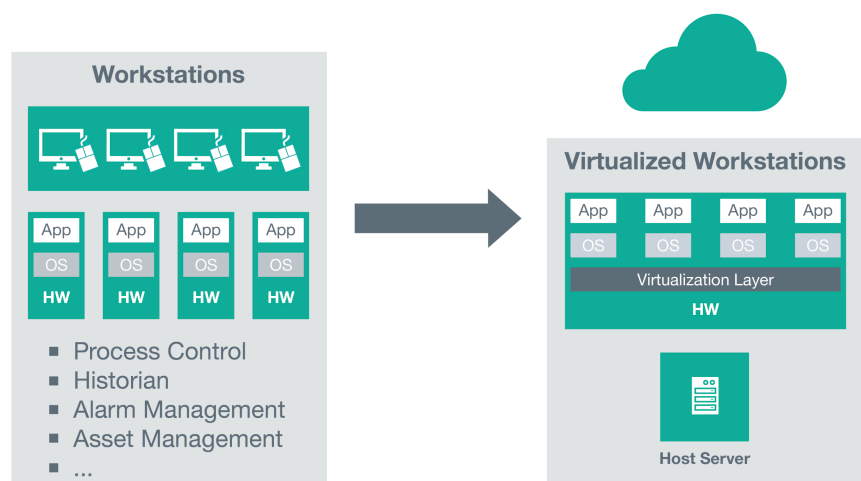

Figure 1: Virtualizing multiple workstations on one host server
- **Desktop Virtualization / Virtual Desktop Infrastructure (VDI):** VDI is one of the newer virtualization trends where many complete desktop OSs (e.g., Windows 7) with their applications are hosted on one host server. This is, for example, used to consolidate multiple workstations with different applications on one centralized host server. (See Figure 1.)